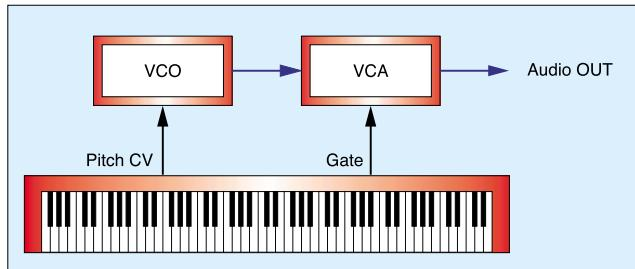
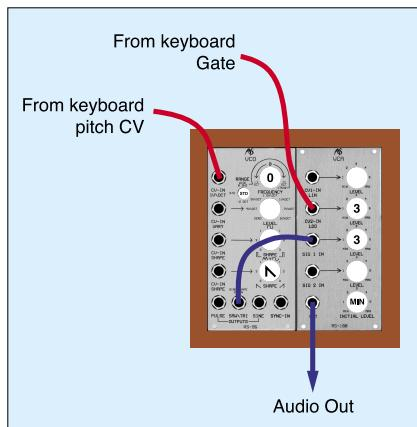

Figure 2: Connecting a keyboard to the modules in Figure 1.
Figure 3: Adding patch cables to control the pitch of the note and when it sounds.
Unfortunately, this is not simple. In fact, it's all but impossible, so we add a controlling mechanism to do most of the work for us. And, as discussed above, this mechanism is almost invariably a keyboard; perhaps with modulation and pitch-bend wheels that help us to inject some humanity into the performance, but a keyboard nonetheless. So we end up with the architecture shown in Figure 2 (top left), and the connections shown in Figure 3 (left). Note that I have connected the keyboard Gate directly to control the amplifier. This is an acceptable practice because synthesizers
If we play the patch in Figures 2 and 3,
- ▶ you can see that this is identical to that shown in Figure 3, so it will come as no surprise to you that it produces the organ-like sound already discussed.